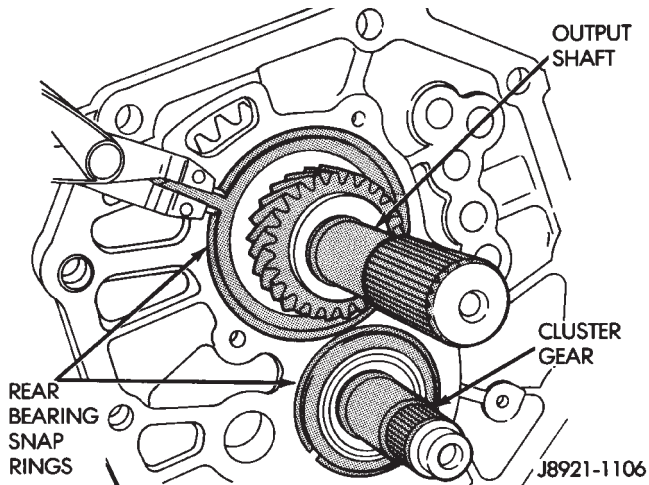

Fig. 82 Installing Rear Bearing Snap Rings
(6) Install snap rings on cluster and output shaft rear bearings only (Fig. 82). Do not install front bearing snap rings at this time.